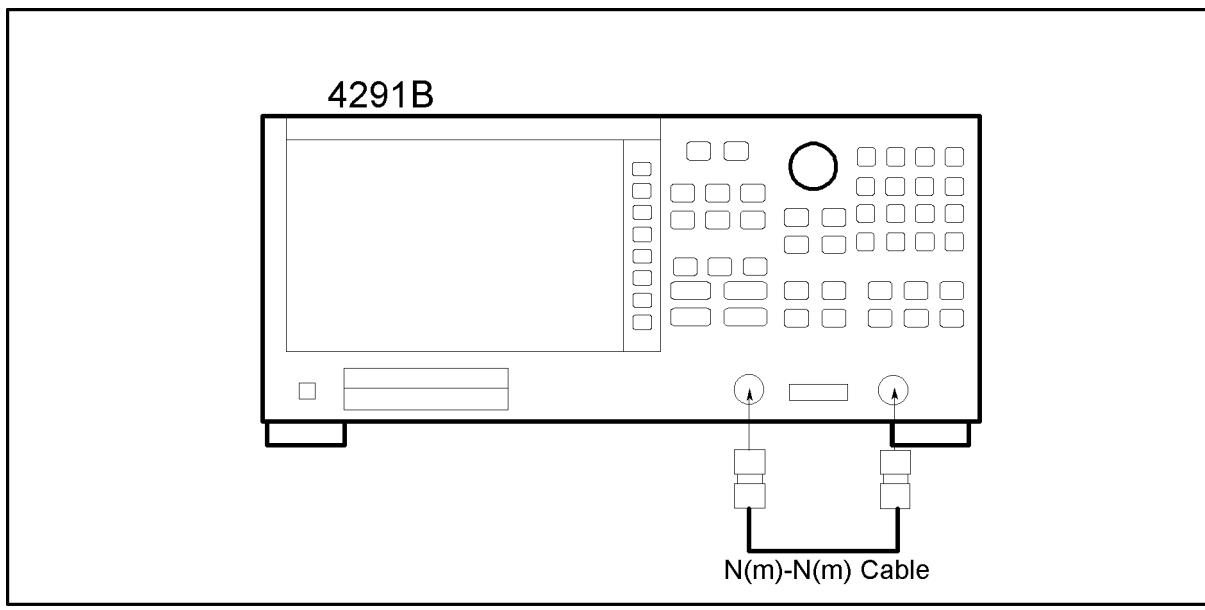

Figure 3-17. Band Pass Filter Adjustment Setup
3. Connect the equipment as shown in Figure 3-17.